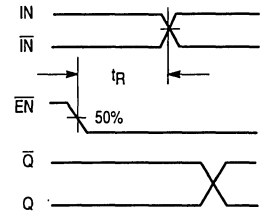

Figure 3. Release Time
7. The release time is the minimum time that \overline{EN} must be deasserted prior to the next IN/\overline{IN} transition to ensure an output response that meets the specified IN to Q propagation delay and output transition times (see Figure 3).